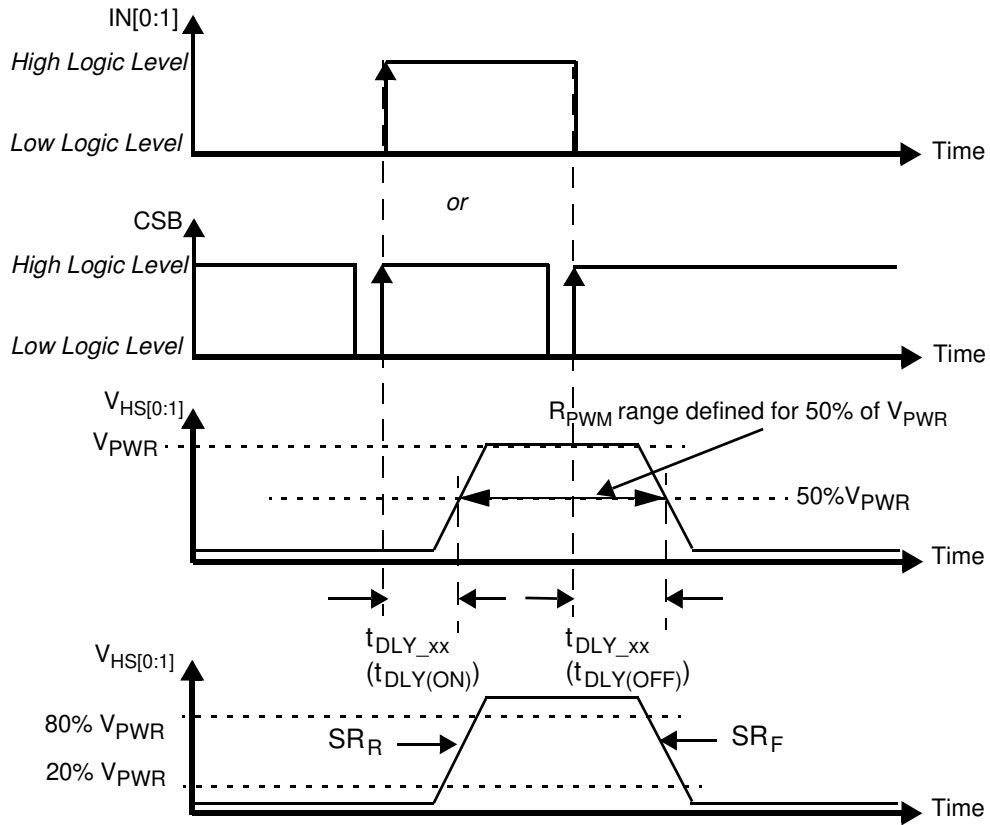
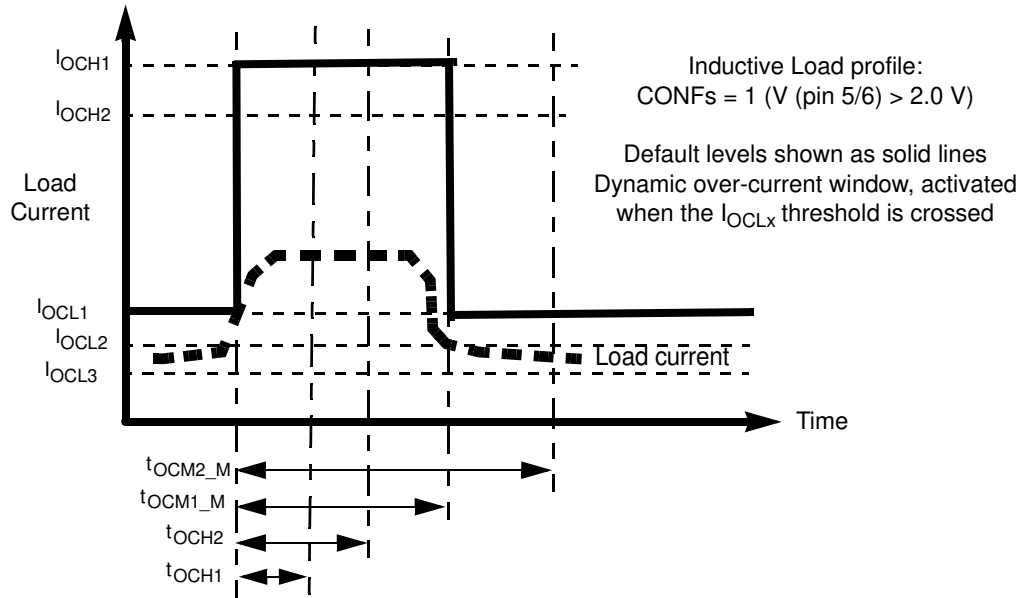
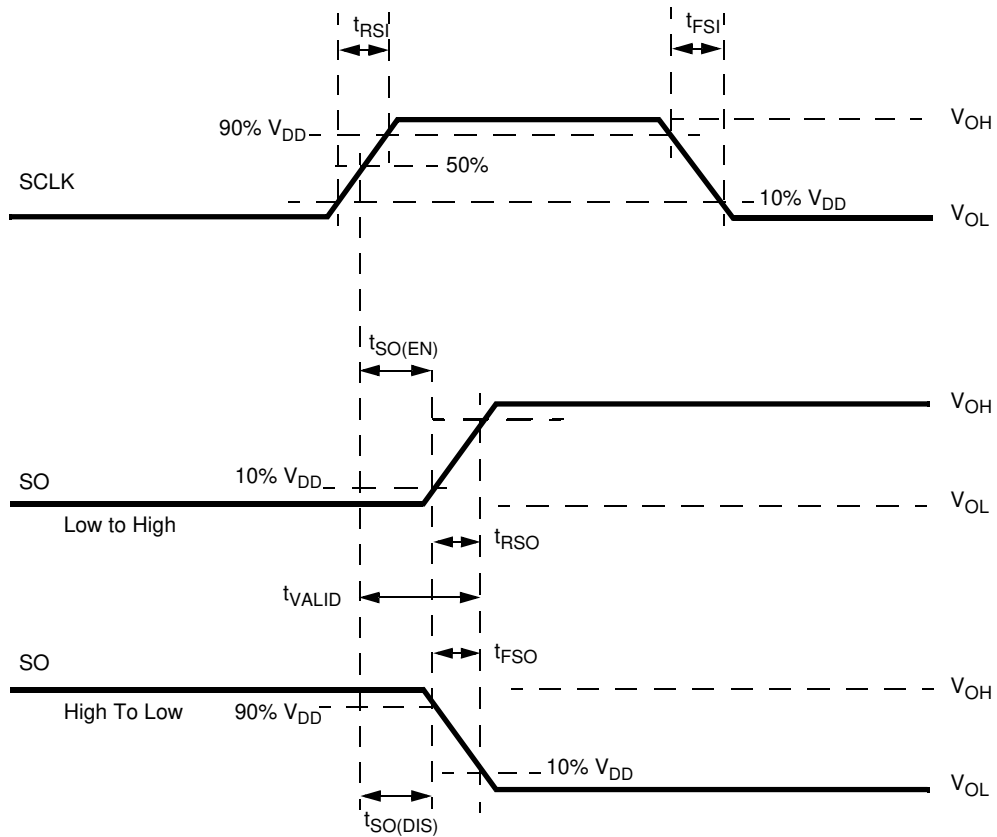

Figure 4. Output Voltage Slew Rate and Delay
Figure 6. Over-current Protection Profile for Applications with Inductive Loads (DC motors, solenoids)
Figure 8. Timing Diagram for Serial Output (SO) Data Communication
27. Rising and Falling edge slew rates specified for a 20 to 80% voltage variation on a 5.0 Ω resistive load (see Figure 4).
29. Rising and Falling edge slew rates specified for a 20 to 80% voltage variation on a 5.0 Ω resistive load (see Figure 4).
31. Time required to switch off the channel after detection of over-temperature (OT), over-current (OC), SC or UV error (time measured between start of the negative edge on the FSB pin and the falling edge on the output voltage until $V(HS[0:1]) = 50\%$ of V_{PWR}
32. Settling time ($= t_{CSNSVAL_xx}$), SYNC output signal delay ($= t_{SYNCVAL_xx}$) and Read-out delay ($= t_{SYNREAD_xx}$) are defined for a stepped load current ($100\text{ mA} < I(LOAD) < IOCLX\ A\ \text{FOR}\ CSNS_RATIO_S = 1$, AND $300\text{ mA} < I(LOAD) < IOCLX\ A_0\ \text{FOR}\ CSNS_RATIO_S = 0$). (see Figure 8 and Output Current Monitoring \(CSNS\))
The CS pin allows independent current monitoring of channel 0 or channel 1 up to the steady-state over-current threshold. It can also be used to sense the device temperature. The different functions are selected by setting bits CSNS1_en and CSNS0_en to the appropriate value (Table 21). When the CSNS pin is sensed during switch-off in the (optional) track & hold mode (see Figure 8), it will output the scaled value of the load current as it was just before turn-Off. When several devices share the same pull-down resistor, the CSNS pins of devices, the current of which is not monitored, must be tri-stated. This is accomplished by setting CSNS0_en = 0 and CSNS1_en = 0 in their GCR register (Table 11). Settling time ($t_{CSNSVAL_XX}$) is defined as the time between the instant at the middle of the output voltage's rising edge ($HS[0:1] = 50\%$ of V_{PWRR}), and the instant at which the voltage on the CSNS pin has settled to $\pm 5.0\%$ of its final value. Anytime an over-current window is active, the CSNS pin is disabled (see Over-current Detection on Resistive and Inductive Loads). The current and temperature sensing functions are unavailable in Fail-safe mode and in Normal mode when operating without the V_{DD} supply voltage. In order to generate a voltage output, this pin requires a pull-down resistor ($R(CSNS)=1.0\text{ k}\Omega$ typ. and $470 < R(CSNS) < 10\text{ k}$). When the current sense resistor connected to the CSNS pin is disconnected, the CSNS voltage is clamped to $V_{CL(CSNS)}$. The CSNS pin can source currents up to about 5.6 mA.
edge of CSB. The SO output driver is enabled when CSB is logic [0]. CSB should transition from a logic [1] to a logic [0] state only when SCLK is at logic [0]. CSB is internally pulled up to V_{DD} through I_{UP} . (see Figure 6 and Figure 8)